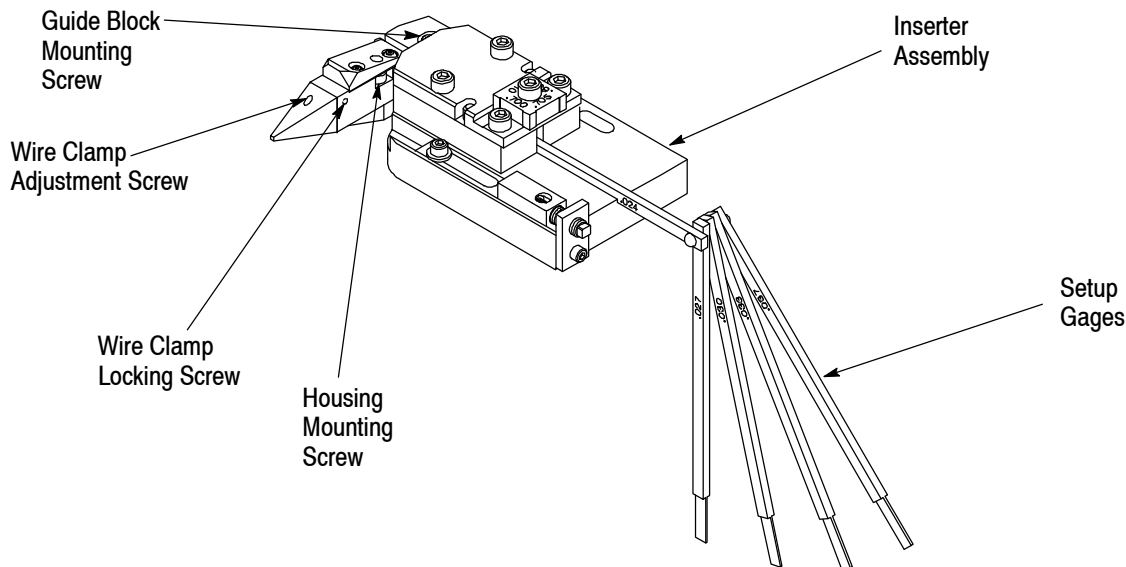

Figure 6
5. Locate the setup gage that is the same size as, or that is one size larger than, the measured wire. Insert the setup gage into the inserter assembly until the gage bottoms against the guide block. Refer to Figure 6.
D. Wire Clamp Force (Figure 6)